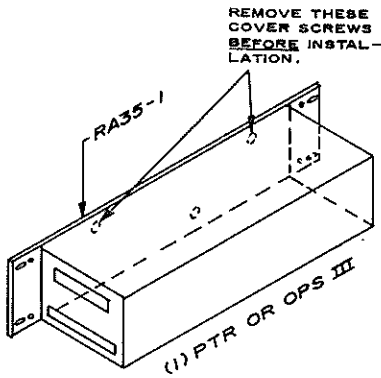

FIG. 1 MODEL RA 35-1 RACK ADAPTER.
The Kepco Models RA 35-1, RA 33-3, and RA 34-4 Rack Adapters are designed for the installation of Kepco PTR and OPS GROUP III Power Supplies into a standard 19-inch rack. The rack adapters are constructed as a single panel with (removable) handles, (4) elongated rack installation holes (standard 2¼-inch hole distance) and predrilled holes for equipment mounting. An attached polyethylene bag contains the necessary mounting hardware. Refer to FIGS. 1 to 3 and to Table 1 for mounting instructions.